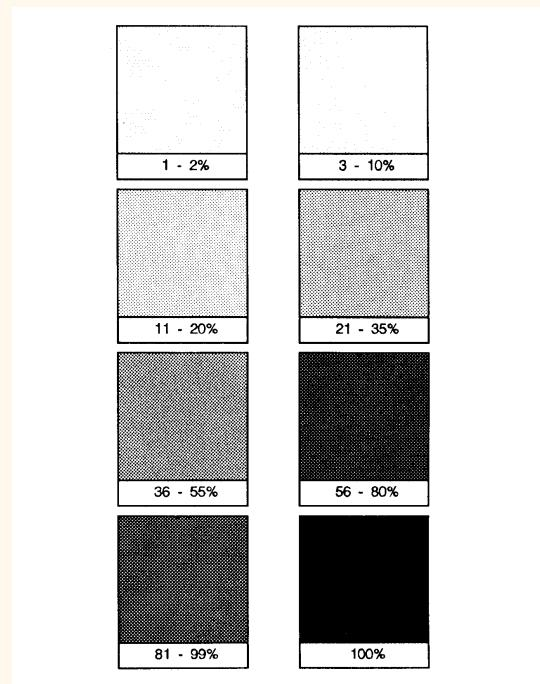

Figure 100. Shading Patterns
3. For *fill_type* 10, the *option1* value specifies the level of shading. The level is specified as a percentage. The device uses at least nine predefined levels of shading equally divided between 0 and 100%. The default is 50%. Each shading level is the percentage of ink used of the current pen color, to be used as texture. If transparency is ON, the destination ink color is also preserved in the (100-*option1*) part (see the instruction *TR, Transparency Mode*). If a “curtain” effect is perceived in the fill area, use the *PP, Pixel Placement* instruction with a parameter of 1. *Figure 100* shows various levels of shading and the specified percentage.